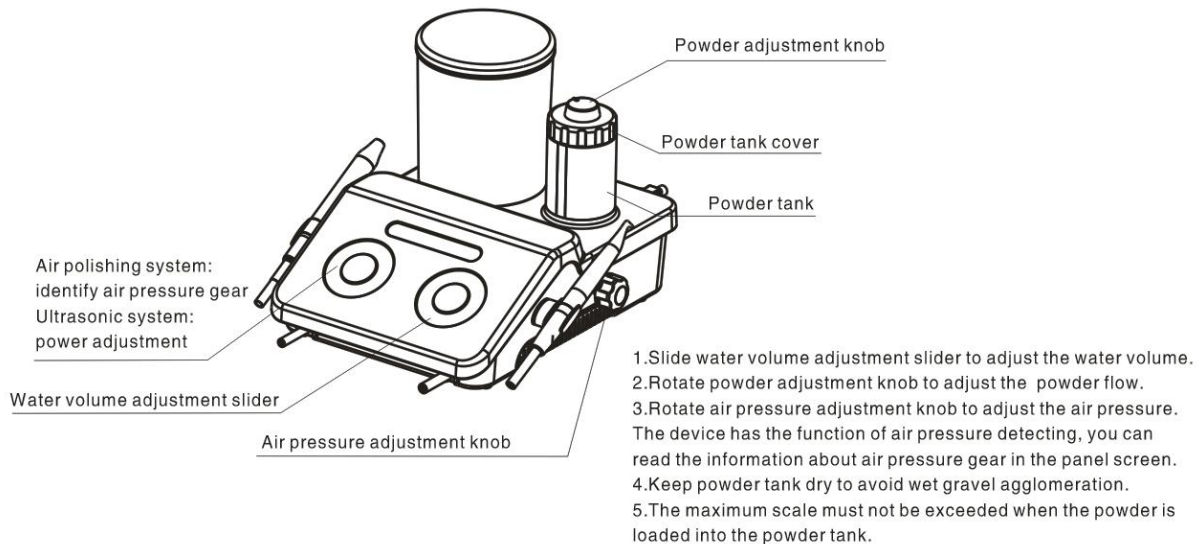
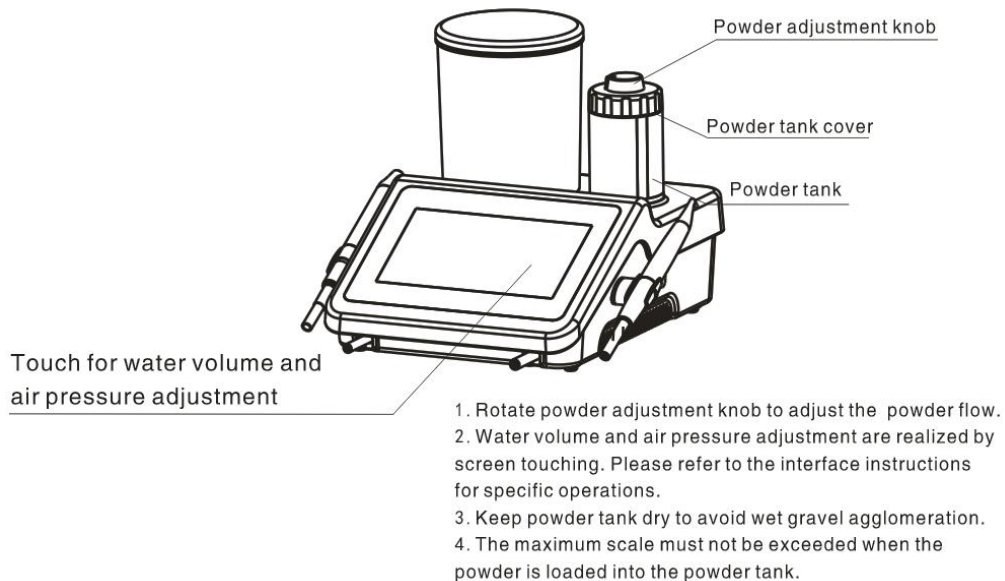

Figure 15 DQ-40
Figure 16 DQ-80
- 2、Insert the external air pipe (black) connector into the air intake connector on the back of the main unit: press the snap ring first and then insert the air inlet connector as shown in Figure 14. Insert the powder tank into the position of powder tank above the main unit (Figure 15, Figure 16).
- 3、Fill a proper amount of water into the transparent water bottle, and insert the water bottle into the sink seat above the main unit (Figure 15, Figure 16).
① Add an appropriate amount of powder into the powder tank (the amount of powder added should be controlled between "Max" and "0" marked on the surface of the powder tank), then tighten the cover of the powder tank, and insert the powder tank into the powder tank seat directly above the main unit.
② Pick up the air polishing handpiece, then the panel will automatically jump into air polishing mode.
③ If the device is DQ-40, adjust the air pressure knob by sliding the water volume adjustment slider (see Figure 15 for details). If the device is DQ-80, adjust the water volume by clicking the "+" or "-" button of water volume on the touch panel, adjust the air pressure by clicking the "+" or "-" button of power. Align the nozzle with the pool, step on the "1" button of foot switch, then confirm that the nozzle can normally spray gas, sand powder and water mist before use.
④ Please wear goggles and gauze on the face shield for the patient before sandblasting treatment. Users should wear goggles or protective masks.
⑤ Generally, the handpiece is held in the pen holding position.
⑥ Adjust the water volume and air pressure to the appropriate gear. The recommended water volume and air pressure starts from 5 gears. Adjust the water volume and air pressure at any time during the clinical process according to the sensitivity of patients' teeth and dental plaque. Increasing the air pressure will enhance the cleaning effect, but will weaken the polishing effect; Increasing the amount of water will enhance the polishing effect, but will weaken the cleaning effect.
⑦ The nozzle shall be aligned with the tooth surface during scaling, but avoid to contact directly. The distance between the nozzle and the tooth surface shall be 3-5 mm, and the angle shall be  $30^{\circ}$  -  $60^{\circ}$ . The smaller the angle, the larger the cleaning area. Please conduct a small range of circular movement on the tooth surface during scaling.
⑧ Use the high-speed evacuation device on the dental comprehensive treatment machine to absorb the air/ powder mixture reflected from the tooth surface during treatment.
⑨ Adjust the water volume to the maximum gear and polish all tooth surfaces after treatment.